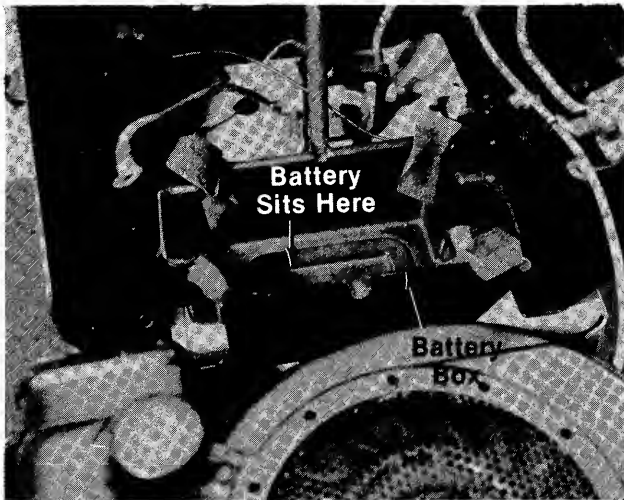

FIGURE 11.
- ← 9. Open the hood of the lawn tractor. Figure 11 shows the battery box in which the battery will be mounted.